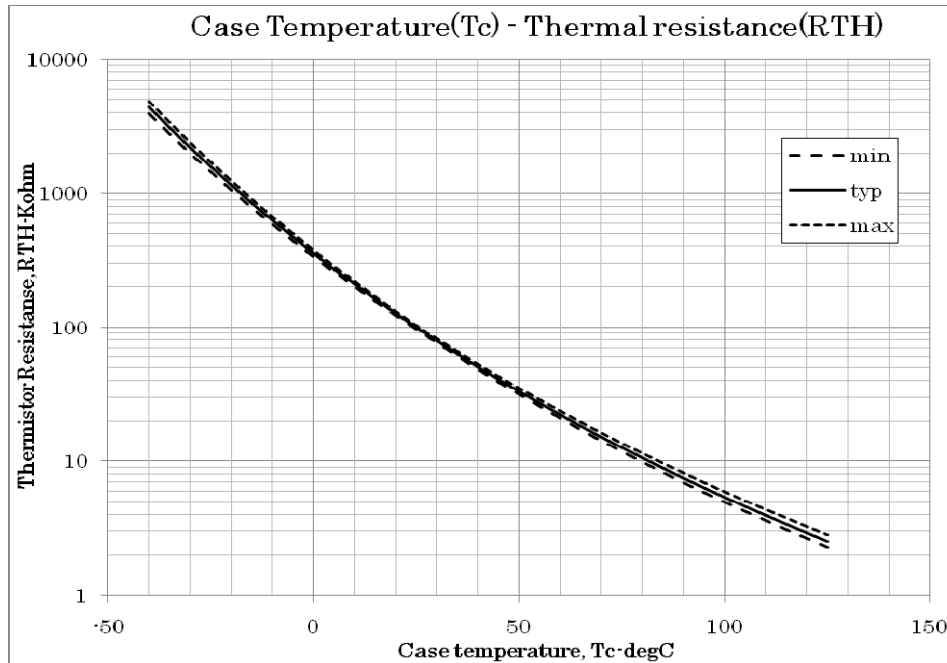
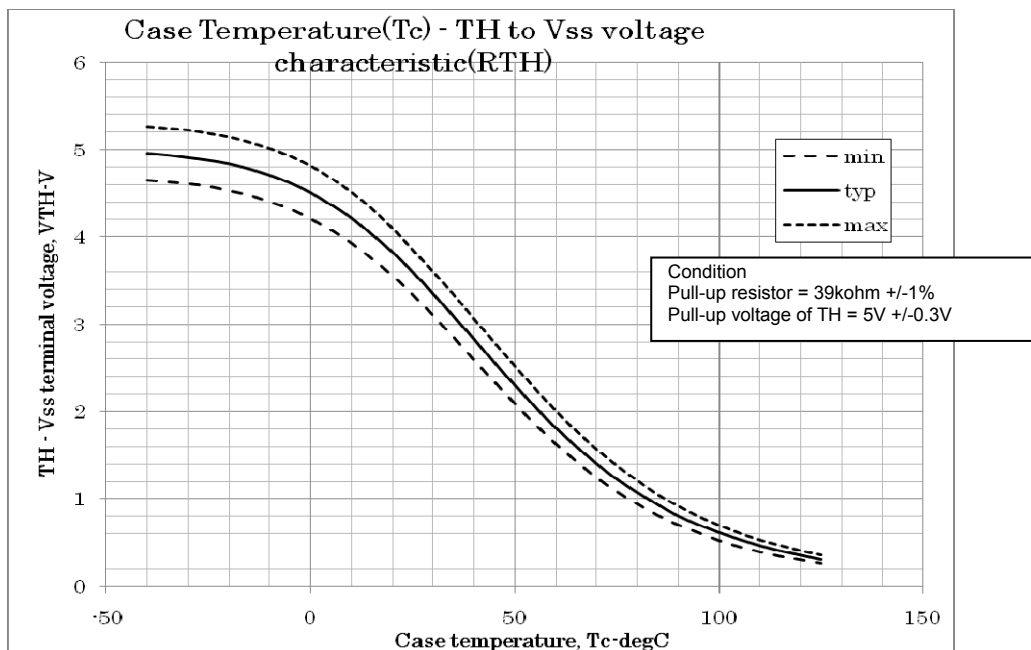

Fig.11 Variation of thermistor resistance with temperature
Fig.12 Variation of temperature sense voltage with thermistor temperature
4. Inside the IPM, a thermistor used as the temperature monitor for internal substrate is connected between "TH1" and "TH2". Generally, one of terminals is connected to V_{SS}, and the other is pulled up to external power supply with pull-up resistor (R_p) externally. The temperature monitor example application is as follows please refer the Fig.11 and Fig.12 below.